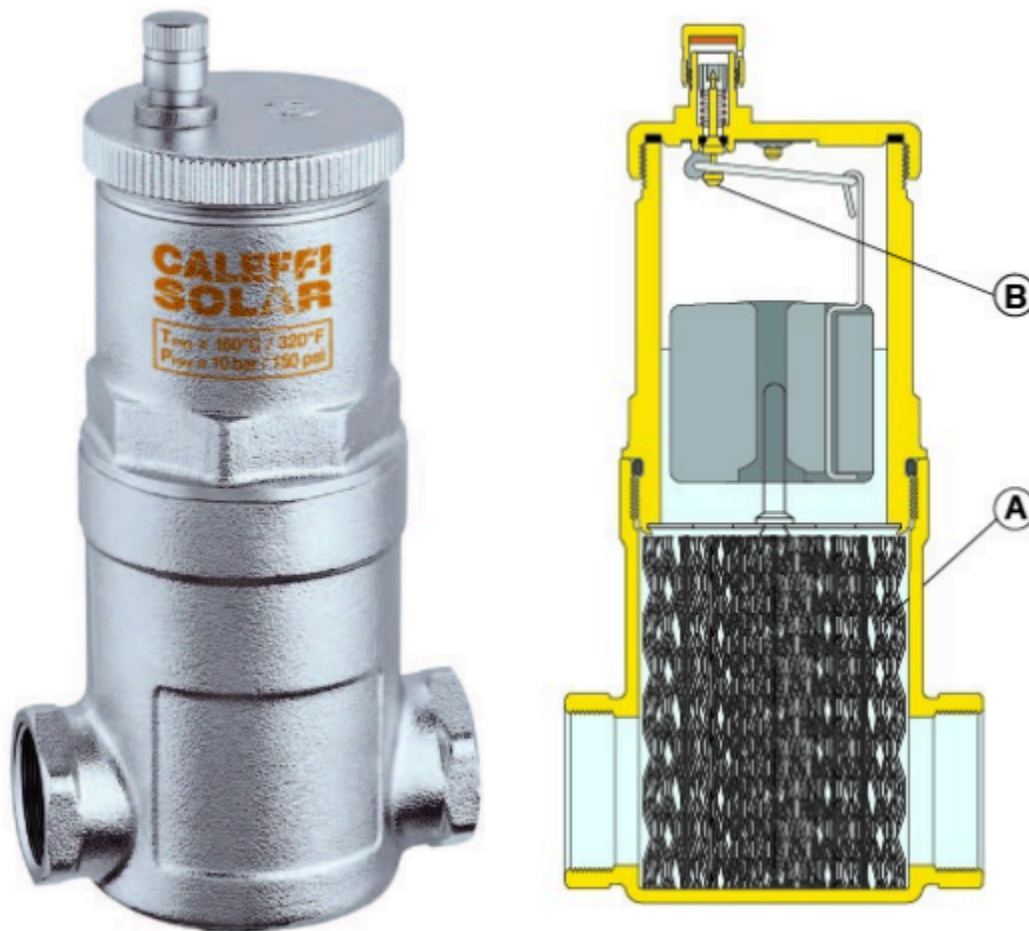

Figure 14 Air separator
- Figure 14 Air separator © Caleffi Hydronic Solutions. Used with permission.